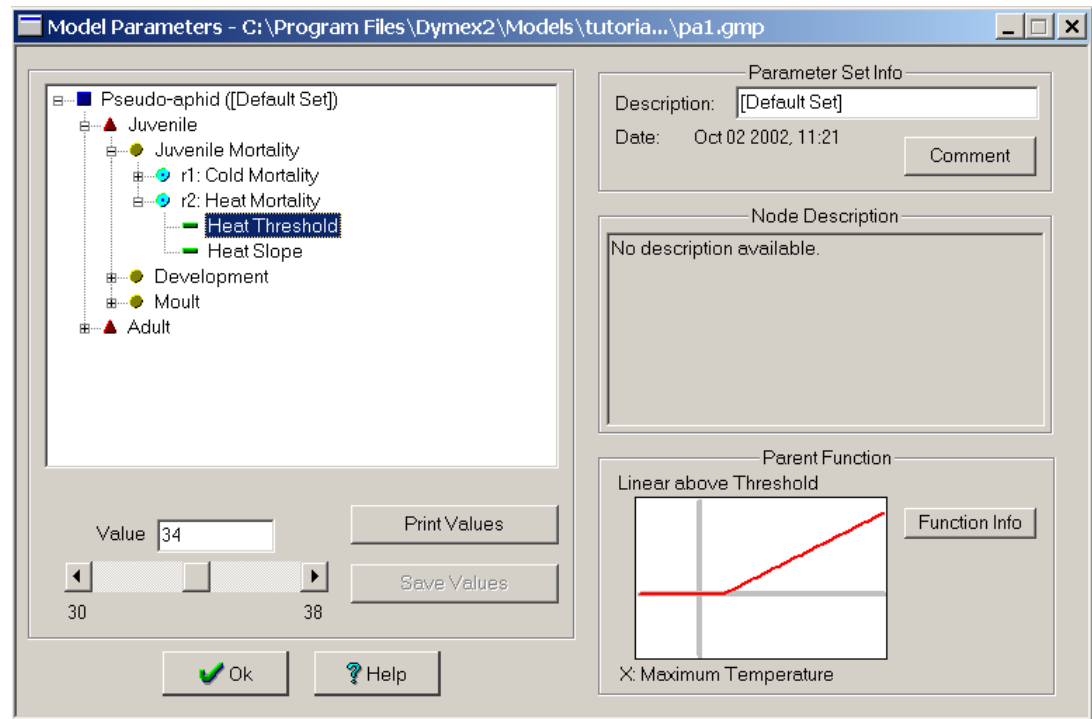

Figure 5-3 The “Model Parameters” dialog
The delicate balance of this model is readily seen if the user experiments with some alterations to the parameters before new runs of the model. Pseudo-aphid model parameters are changed in the Simulator by clicking on the Parameter icon (P) of the lifecycle module. (or, alternatively, selecting “**Model Parameters...**” from the “**Initialization**” menu). This displays the “Model Parameters” dialog (Figure 5-3), from which any of the parameters may be altered within the range set in the Builder. The large panel on the left displays a “tree”-diagram of the model (somewhat similar to that shown in the Builder’s Model window). Each module that contains parameters is shown (with a ■ icon). The ‘+’ box in front of each icon can be clicked on to show more details such as the lifestages (▲) in a lifecycle module, and the processes (●) within each lifestage. Each parameter (—) is a terminal branch on the tree. The right side of the dialog describes the selected node of the tree in more detail, including (if applicable) a graphic of its function. A description of the selected node will be present if one was provided when the model was built. A particular parameter’s value is changed by finding it in the tree and selecting it, and then setting the new value in the “Value” box (or moving the slider to the correct position). Note that changes are made only to the Parameter (gmp) file, the Model Description (gmd) file is not affected. A convenient way to return to the “default” values is to merely delete the model’s “gmp” file (But make sure not to delete the “gmd” file by mistake!).